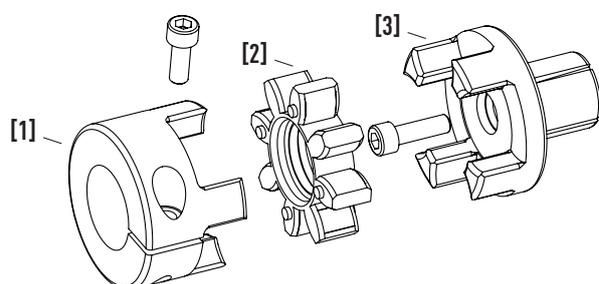

Fig. 6.66 Coupling assembly variant 1: clamping hub with one clamping screw
- Variant 1 with one clamping screw, see Fig. 6.66